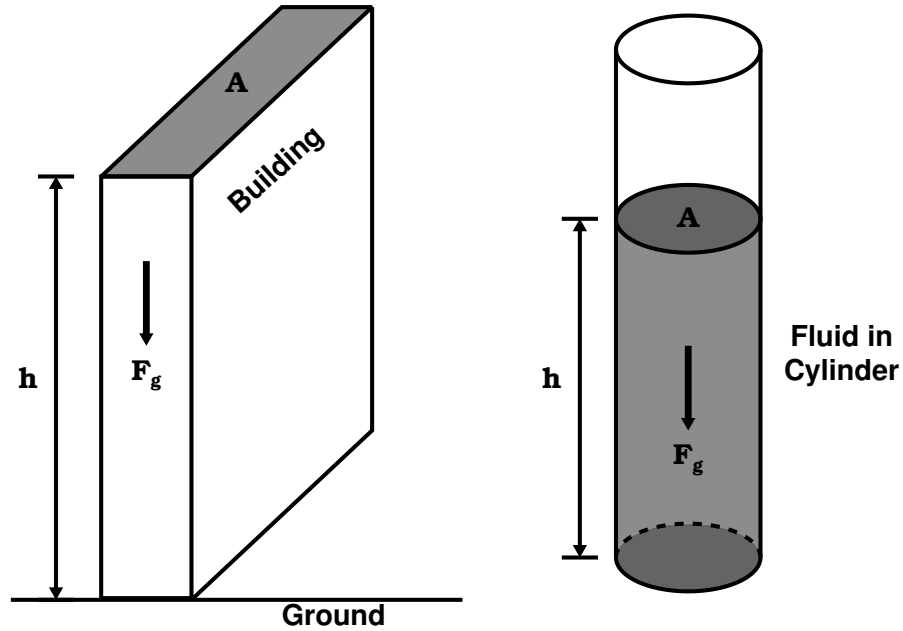

Figure 1: Examples of the relationship between density, pressure, and gravity.
- Consider a column of fluid of height h in a cylinder of cross-sectional area A as shown in the right-hand diagram of Figure 1. The force on the fluid is just the gravitational force
- This formula is valid for all states of matter (*i.e.*, solids, liquids, and gas) as shown in Figure 1.